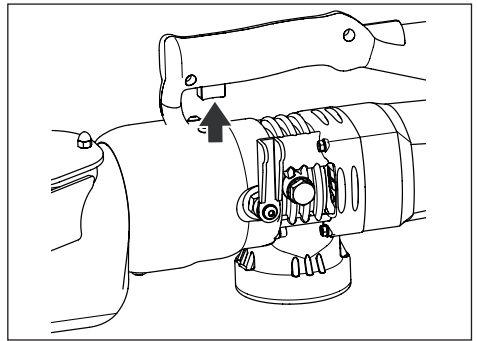

Figure 5, Trigger On-Off Switch
- Press and hold the trigger to advance the piston and slide the moving blade forward. See Figures 5 and 6.